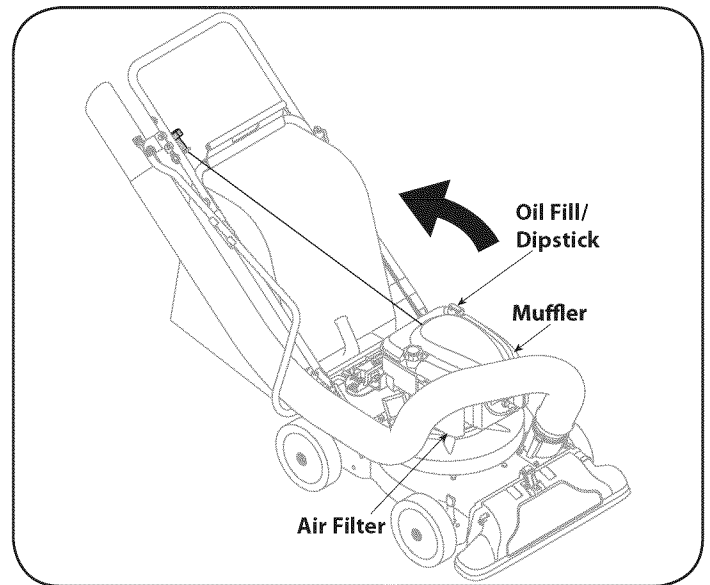

Figure 22
3. Remove the oil fill dipstick and drain the oil into the container by tipping the engine toward the oil filler neck. See Figure 22.